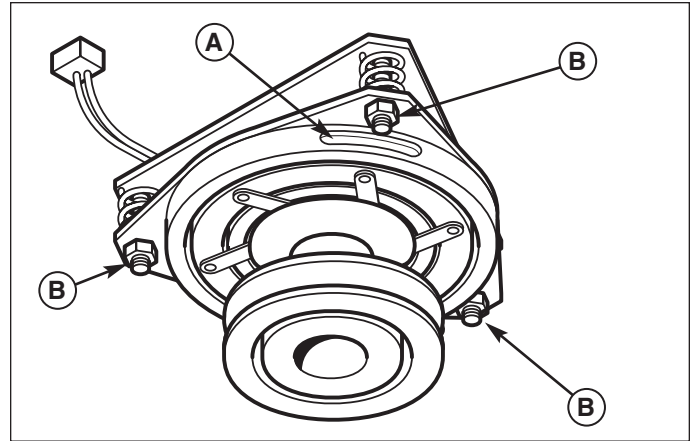

Figure 29. PTO Clutch Adjustment
2. Note the position of the 3 adjustment windows (A, Figure 29) in the side of the brake plate and the nylock adjustment nuts (B).